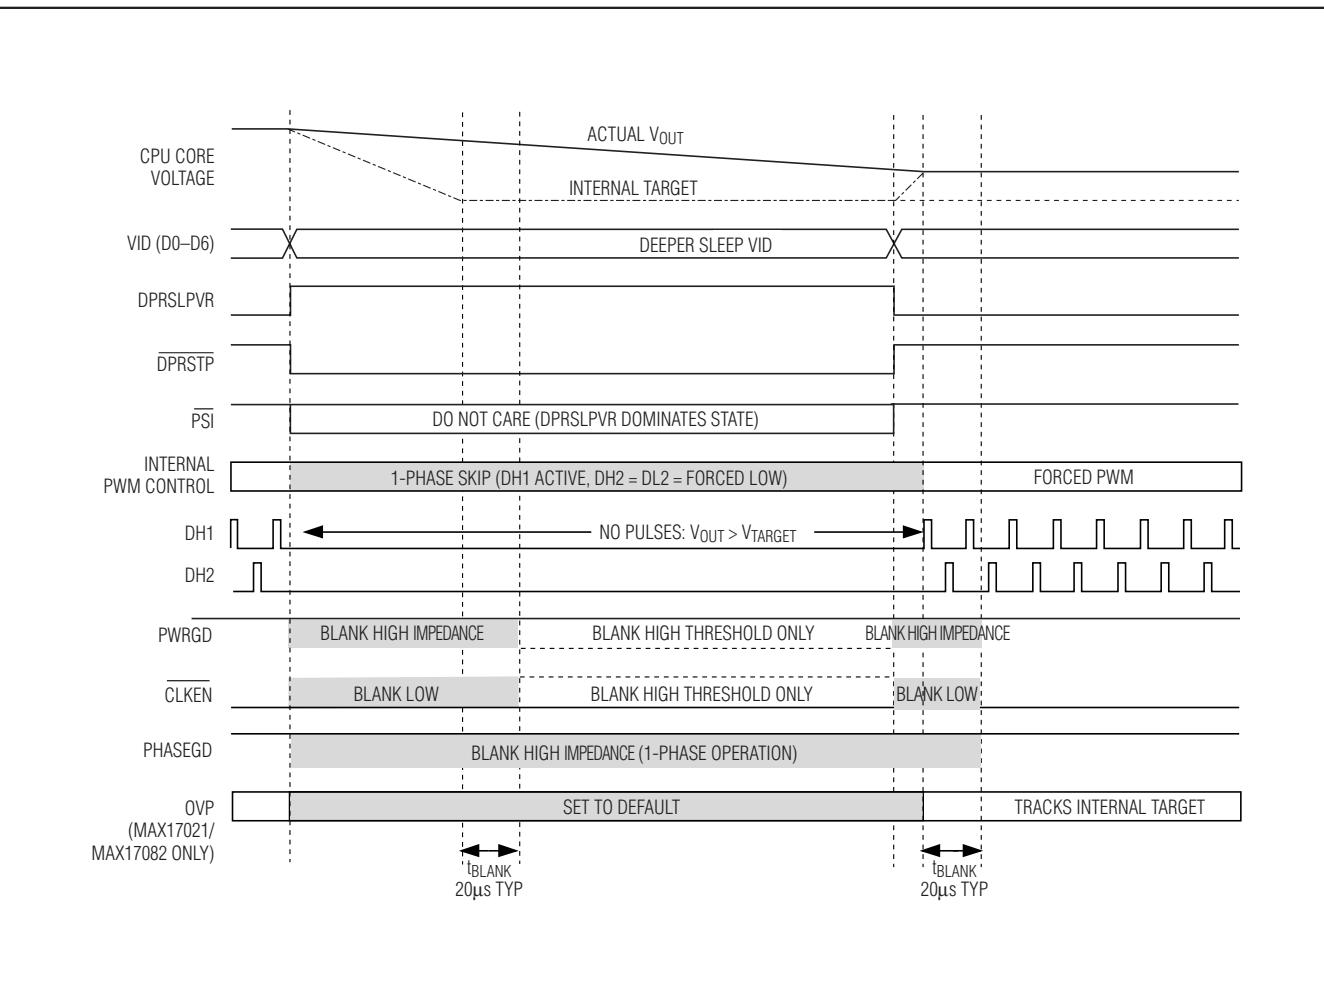

Figure 5. C4E (C4 Early Exit) Transition
When DPRSLPVR goes high, the MAX17021/MAX17082/MAX17482 immediately disable phase 2 (DH2 and DL2 forced low), blank PHASEGD high impedance, and enter pulse-skipping operation (see Figures 5 and 6). If the VIDs are set to a lower voltage setting, the output drops at a rate determined by the load and the output capacitance. The internal target still ramps as before, and PWRGD remains blanked high impedance until 20 μ s after the output voltage reaches the internal target.
- **Fast C4E Deeper Sleep Exit:** When exiting deeper sleep (DPRSLPVR pulled low) while the output voltage still exceeds the deeper sleep voltage, the MAX17021/MAX17082/MAX17482 quickly slew (50mV/ μ s min regardless of RTIME setting) the internal target voltage to the DAC code provided by the processor as long as the output voltage is above the new target. The controller remains in skip mode until the output voltage equals the internal target. Once the internal target reaches the output voltage, phase 2 is enabled. The controller blanks PWRGD, PHASEGD, and CLKEN until 20 μ s after the transition is completed. See Figure 5.